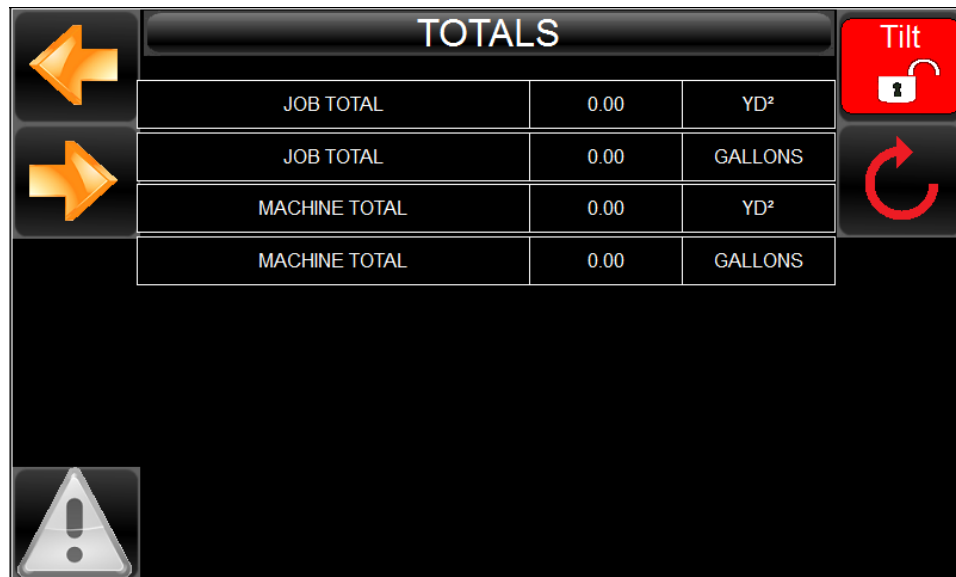

Figure 48: Zeroing the job totals
3. In the Totals screen of the display screen unit, zero the job totals by holding down the circular arrow key [2R] (see Figure 48) for at least 5 seconds.